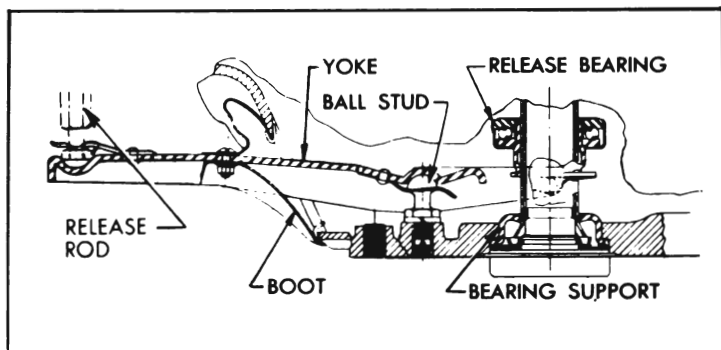

Figure 4-5—Clutch Release Yoke and Boot
2. Disconnect release rod from yoke, unhook boot from opening in flywheel upper housing, and pull yoke outward to disengage it from ball stud. See figure 4-5.
2. Disconnect release rod from release yoke and remove yoke boot. See figure 4-5.
9. Install boot and release rod nut lock on yoke (fig. 4-5), attach release rod to yoke, then adjust for clutch pedal lash of $1\frac{1}{8}$ " to $1\frac{1}{4}$ " (par. 4-4).